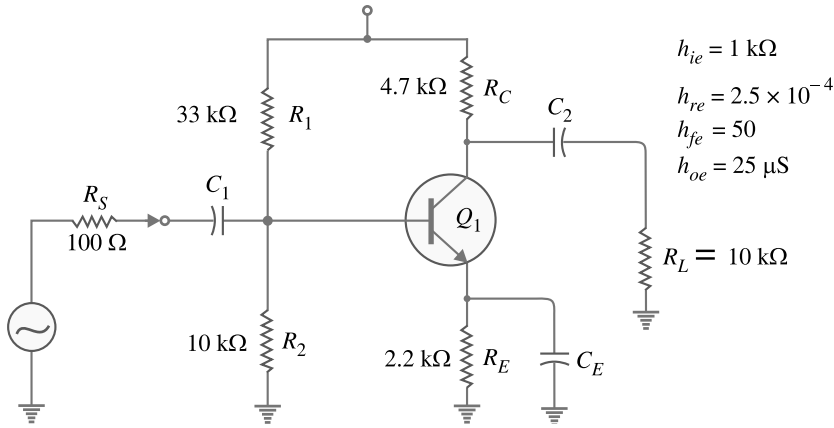

Fig. 22.15
**Example 22.9.** Find the value of current gain for the circuit shown in Fig. 22.15. The *h* parameter values of the transistor are given alongside the figure.
**Solution.** Note that the signal source (See Fig. 22.15) has resistance  $R_S = 100 \text{ }\Omega$ .